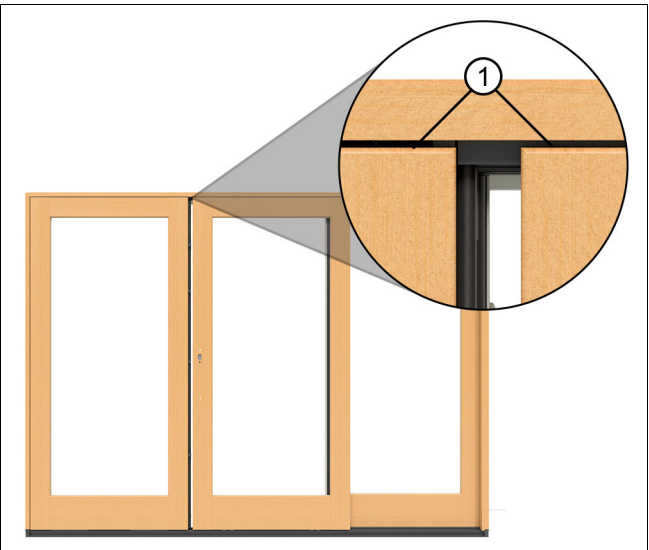

Figure 43 OXO configuration shown.
**NOTE:** Rollers are set at neutral from the factory. Adjustment from neutral is about 1/8" up or down. The expected gap between the top of the panel and the frame should be about 1/8". See Figure 43.